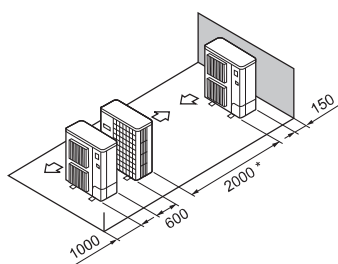

Fig. 2-17
- ⑤ Single parallel unit arrangement (Fig. 2-17)